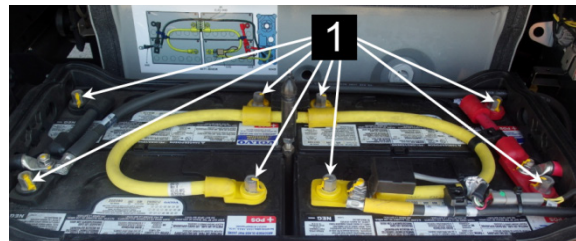

FIGURE 53: INSTALL THE BATTERY CABLE LUGS
- Connect the battery cables. Tighten the cable terminal (item 1, FIGURE 53) nuts to the following torque: